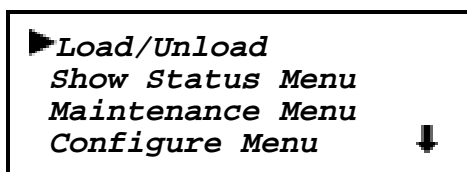

Figure 3-32 Main Menu
2. On the control panel of the Global Control Module, at the Default Screen, press the **Enter** button to display the Main Menu shown in Figure 3-32. **Note:** if the display says that the front panel is locked, you need to know the unlock code for your system. See the section titled 'Entering the Menu Mode' earlier in this chapter for unlocking instructions.